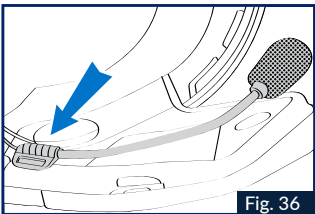

Fig. 36
7. Position the microphone and attach it with the supplied Velcro piece to the polystyrene on the left cheek as shown in Fig. 36.